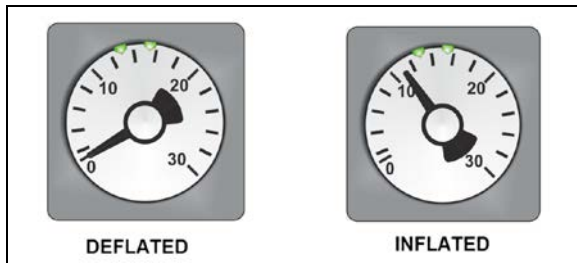

FIGURE 14: INFLATABLE SEAL PRESSURE GAGE
- Finally, the inflatable seal can be re-inflated by turning the shut-off valve handle counterclockwise. Check the pressure gage on the inflatable seal regulator to see if the pressure increases to around 11 psi (Figure 14). Needle should be pointing between the two small green marks on the dial.
- Finally, the inflatable seal can be re-inflated by turning the shut-off valve handle counterclockwise. Check the pressure gage on the inflatable seal regulator to see if the pressure is increasing to 11 psi (Figure 14).